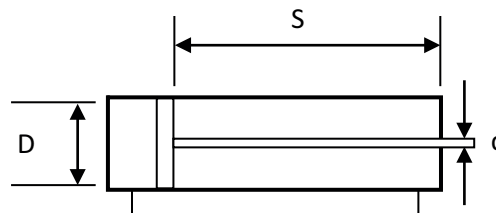

Fig. 10
- (iv) With reference to the data in **Fig. 10** calculate the air consumption on the negative stroke in cm^3 for the cylinder shown. Show your working out clearly. Assume $\pi = 3.14$.